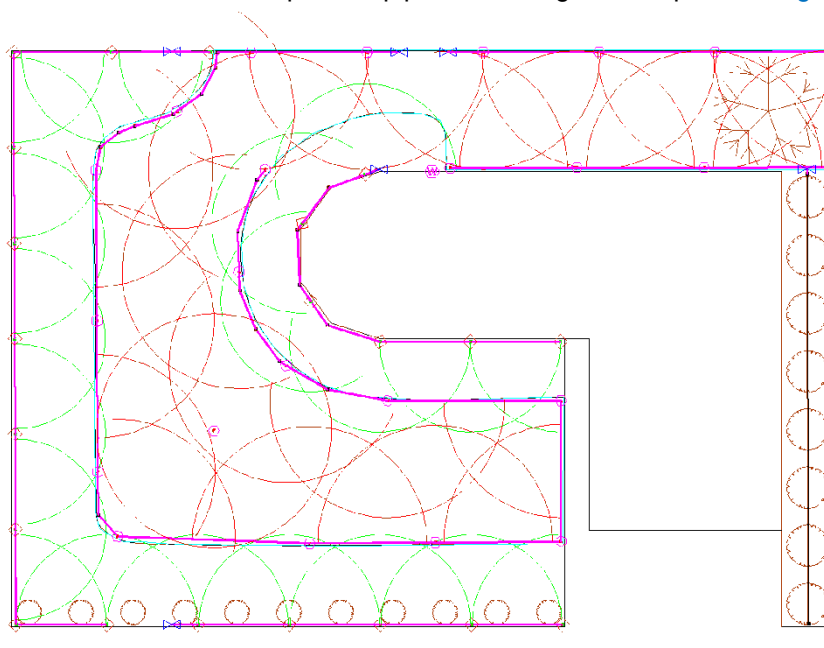

Figure 4-82
39. Use *Modify|Select Object* and click on the pipe between the second and third garden sprinkler from the left on the bottom boundary. Press the <Delete> key. Select *Zone|Pipe* and connect a **Computer Selected** pipe at **12in (300mm) "Depth"** to the third sprinkler mentioned above. Extend this pipe approx. **3ft (1.0m)**. Click to place then select *Right-click|Restart*. Select *Zone|Control Valve*. The **1" (25mm) Electric Valve** should still be selected. Place a valve on the end of the pipe you have just drawn as in Figure 4-82.
42. Lastly, connect a valve to the top of the pipe connecting to the tape. See Figure 4-82.